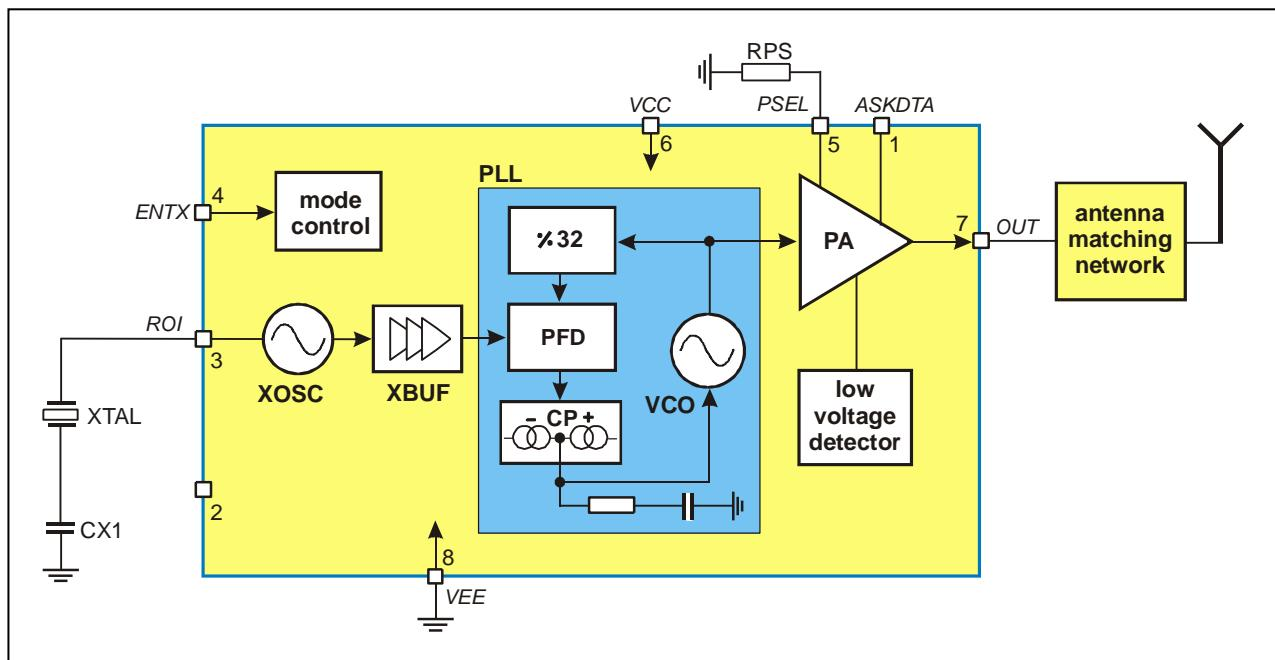

Fig. 1: Block diagram with external components
As depicted in Fig.1, the TH72002 transmitter consists of a fully integrated voltage-controlled oscillator (VCO), a divide-by-32 divider (div32), a phase-frequency detector (PFD) and a charge pump (CP). An internal loop filter determines the dynamic behavior of the PLL and suppresses reference spurious signals. A Colpitts crystal oscillator (XOSC) is used as the reference oscillator of a phase-locked loop (PLL) synthesizer. The VCO's output signal feeds the power amplifier (PA). The RF signal power P_{out} can be adjusted in four steps from $P_{out} = -12 \text{ dBm}$ to $+11 \text{ dBm}$, either by changing the value of resistor RPS or by varying the voltage V_{PS} at pin PSEL. The open-collector output (OUT) can be used either to directly drive a loop antenna or to be matched to a 50Ω load. Bandgap biasing ensures stable operation of the IC at a power supply range of 1.95 V to 5.5 V.